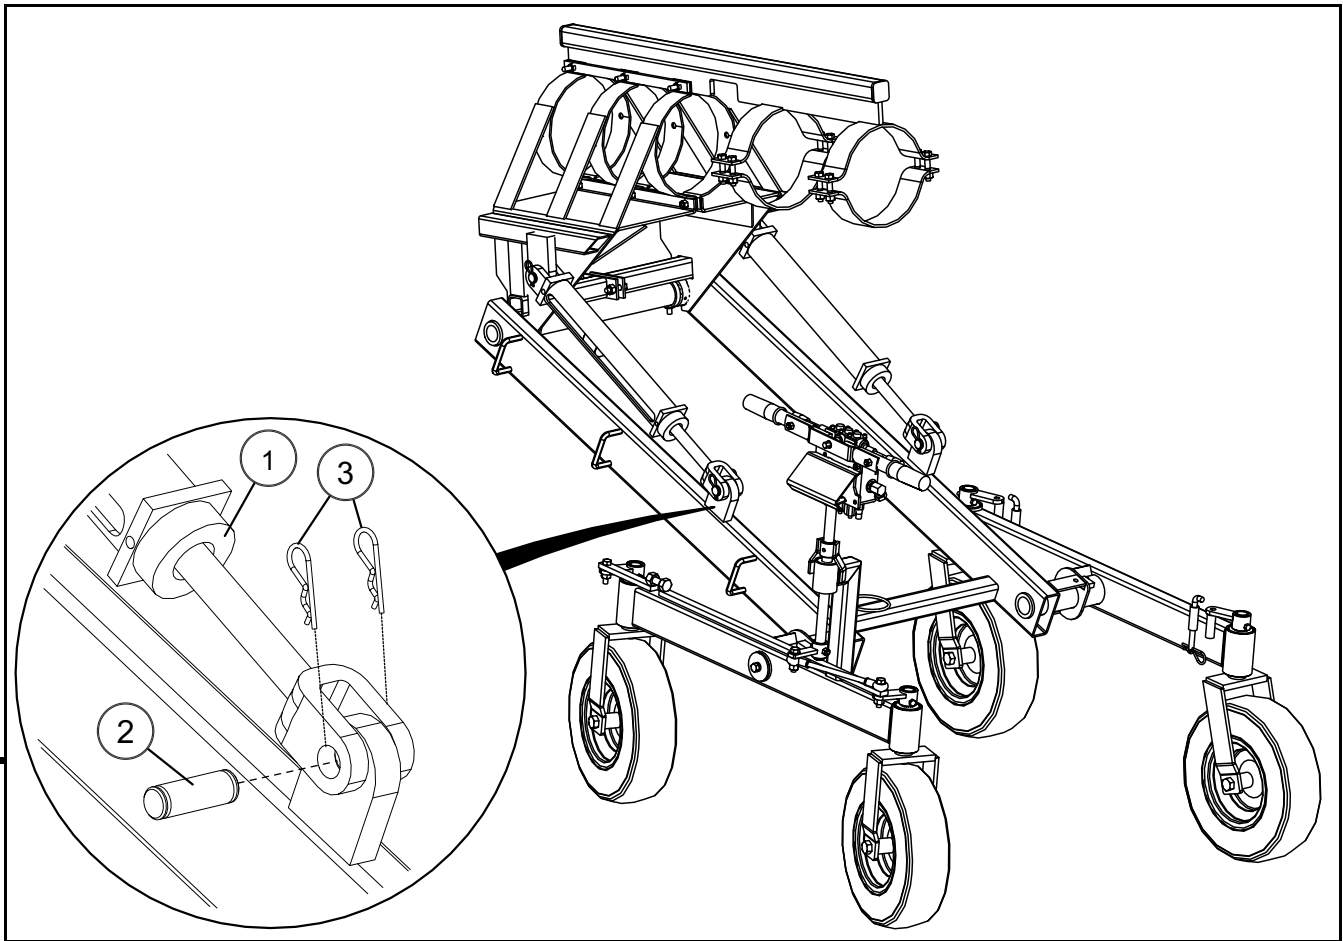

Figure 3.10 Hydraulic Cylinder Components
1. Noting the orientation in Figure 3.10, install hydraulic cylinders (1) on tabs with supplied pins (2) and cotter pins (3). The ports for the fittings should be facing outward (away) from the conveyor tube.